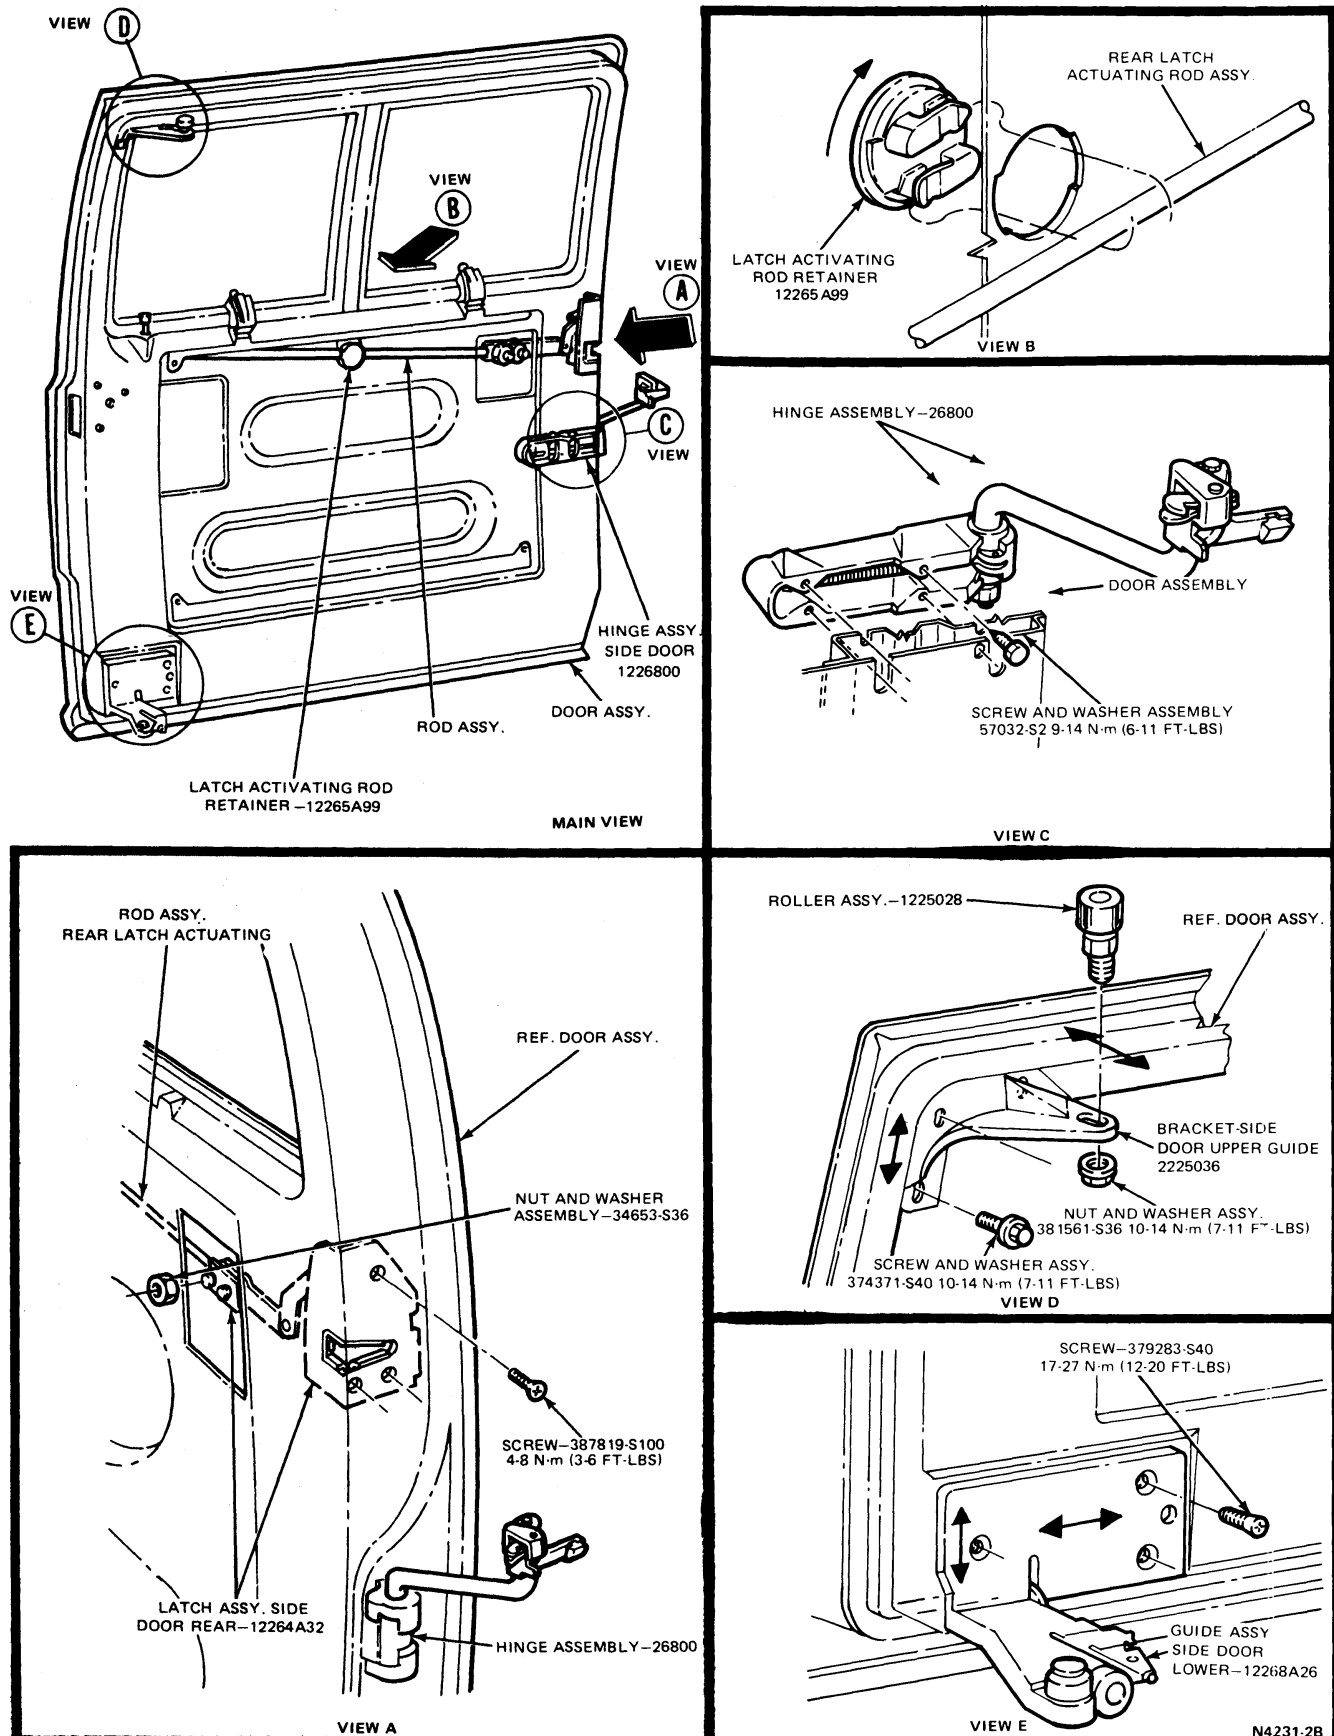
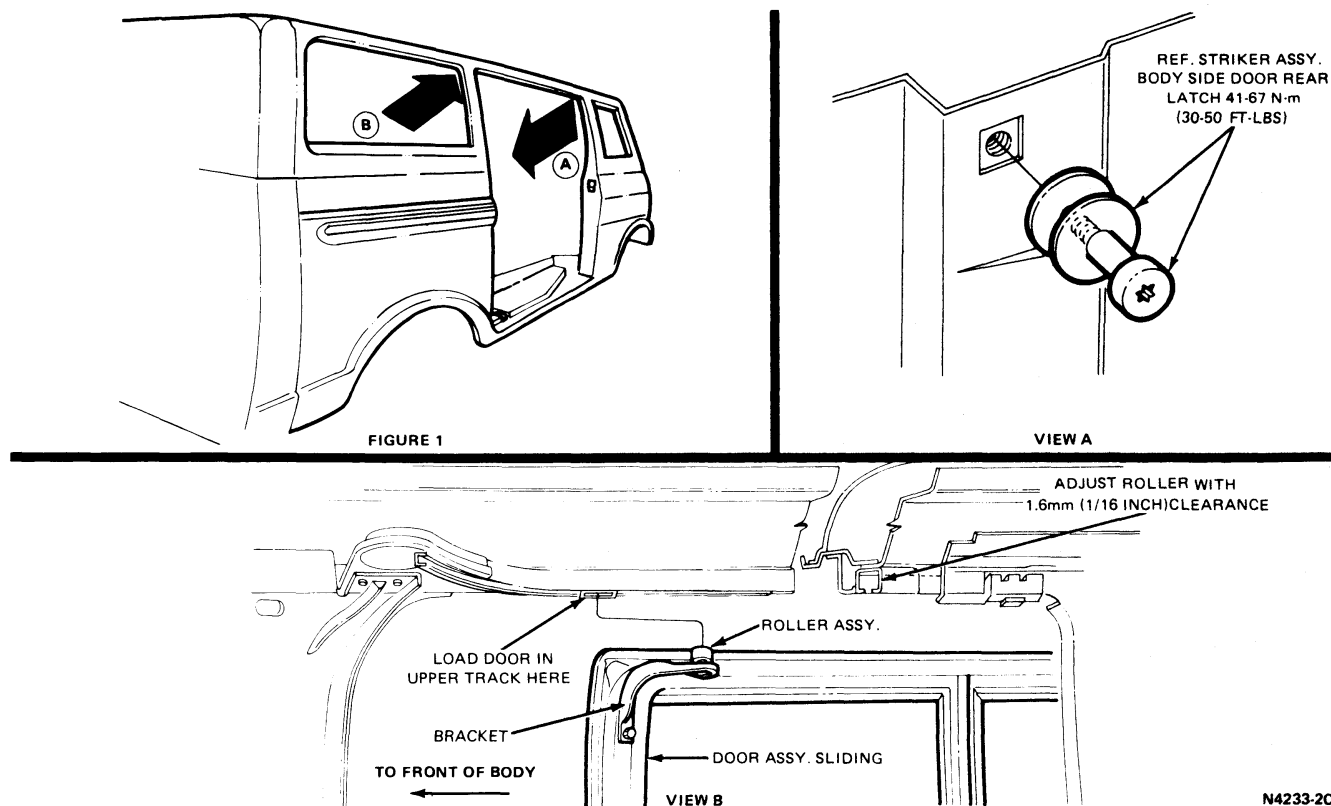

FIG. 1 Sliding Door Adjustments—In or Out or Up or Down
FIG. 2 Sliding Door—Guides and Rollers
door panel will flush with the body panel. A door slammed with less force may allow the rear latch (Fig. 1) to engage the rear striker (Fig. 2) in the secondary position. In this event, the door may be placed in the primary or fully-latched position by rotating the inside or outside handle (inside - forward, outside - upward) until a click is heard.
To adjust the upper edge of the door, loosen the upper roller retaining nut and move the roller in or out, to obtain a flush fit with the body sheet metal at the top edge of the door (View D, Fig. 1).
To adjust the lower front edge of the door, loosen the retaining screws on the guide assembly and move the guide assembly **forward**, to obtain a snug fit to the body and **rearward** to move it away from the body, at the B pillar post (View E, Fig. 1).
To move rear edge of door in or out, open door and loosen and adjust rear latch striker as required (View A, Fig. 2). Tighten striker.
To move the front edge of the door up or down, loosen the three lower guide attaching screws (View E, Fig. 1), then rotate the guide at the lower attaching screw to obtain the desired door **up or down** position.
Loosen the upper roller bracket assembly attaching screws and adjust the bracket so that the bottom edge of the roller assembly is approximately 1/16 inch from the bottom flange of the upper track (View B, Fig. 2).
To move the rear edge of door UP OR DOWN, open the door and loosen and adjust the rear latch striker up or down as required (View A, Figure 2). Tighten striker. Close the door slowly and observe if the rear latch striker clears the inboard tang on the latch pawl. If it does not clear, close the door, fully latched front and rear, and remove the rear hinge assembly mounting bolt covers (View A, Figure 6).
2. Mark the location of the upper bracket assembly to the door (Fig. 2).
5. Position the bracket and roller assembly to the door and install the three retaining screws (Figs. 1 and 2).